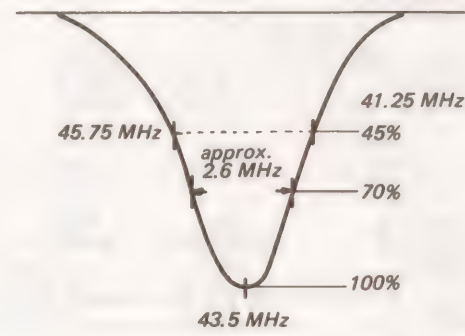

Fig. 5-16. Mixer output response curve
6. Adjust i-f transformer to obtain the waveform shown in Fig. 5-16.